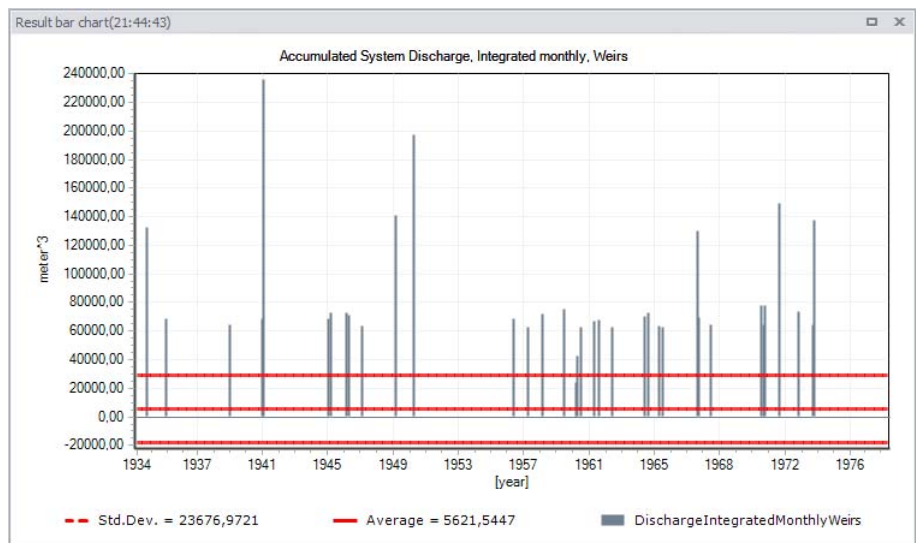

Figure 20.65 Example bar chart plot of monthly weir overflow volumes from LTS chronological statistics results
- Click on the 'OK' button to create a new bar chart plot. An example is shown in Figure 20.65.